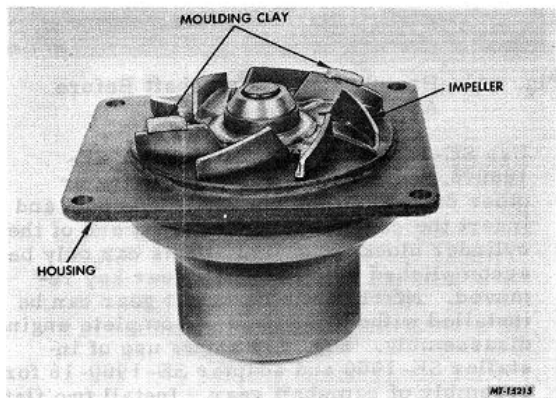

Fig. 138
- a. Position suitable amount of moulding clay on two impeller vanes, Fig. 138.